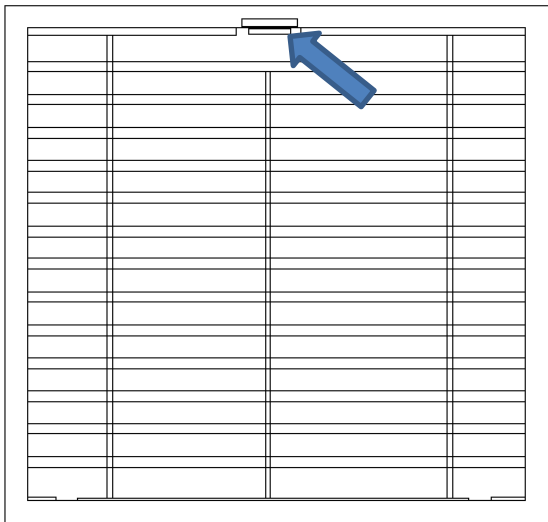

Fig.3
1. Unclip the louvre panel from the grille backplate by using a flat head screwdriver in the gap shown in *Fig.3*.